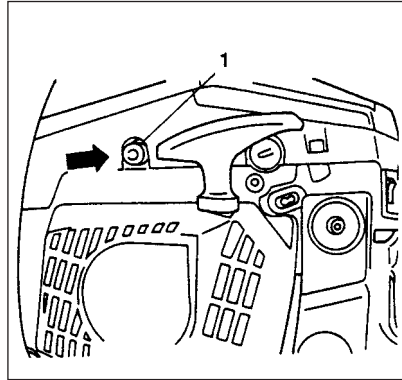

Fig. 2-2B
1. Set ignition switch (1) to ON position.
\* Press the decompression valve (1) (if so equipped). This valve will return when engine started). (Fig. 2-2B)